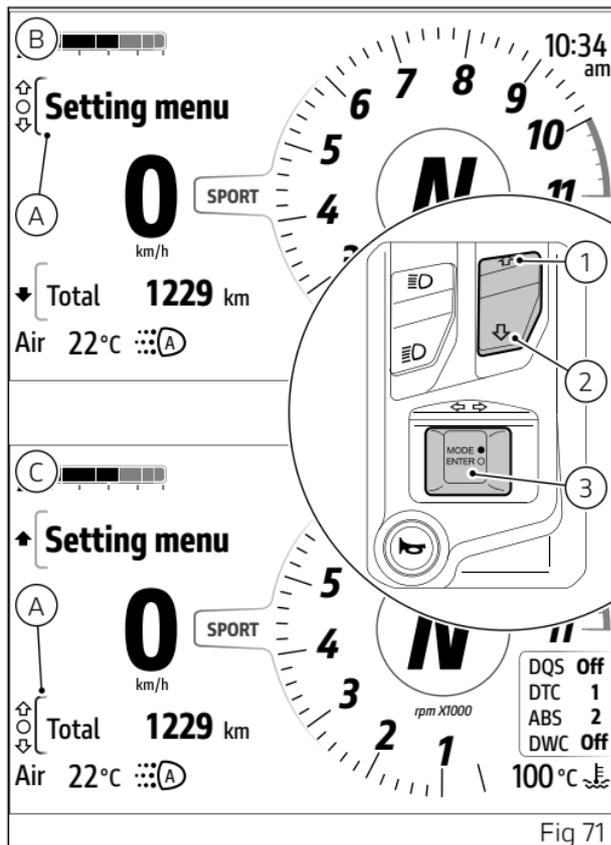

Fig 71
When one of the menus is selected, it is indicated with the active frame (A, Fig 71) and buttons (1), (2) and (3) are used for menu navigation and interaction. To toggle the selection between "Interactive menu" and "Info display" and vice versa:
- if "Interactive menu" is currently selected, long press and hold button (2) to move the selection to "Info display" (C, Fig 71);
- if "Info display" is currently selected, long press and hold button (1) to move the selection to "Interactive menu" (B, Fig 71).